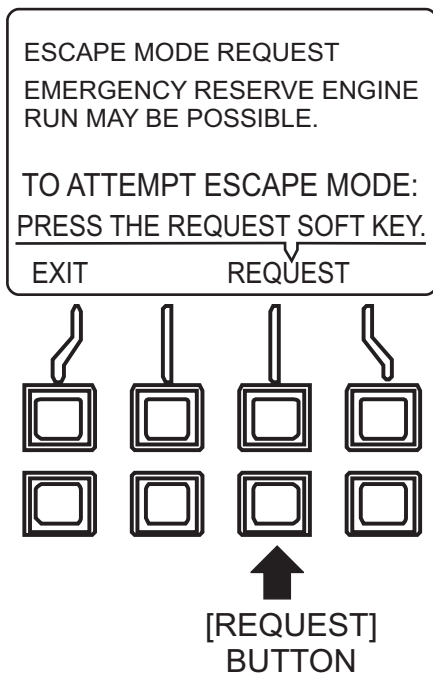

Figure 91. Escape Mode (Request Button)
6. Press the **[REQUEST]** button (Figure 91) to send “Escape Mode Request” signal to ECM.